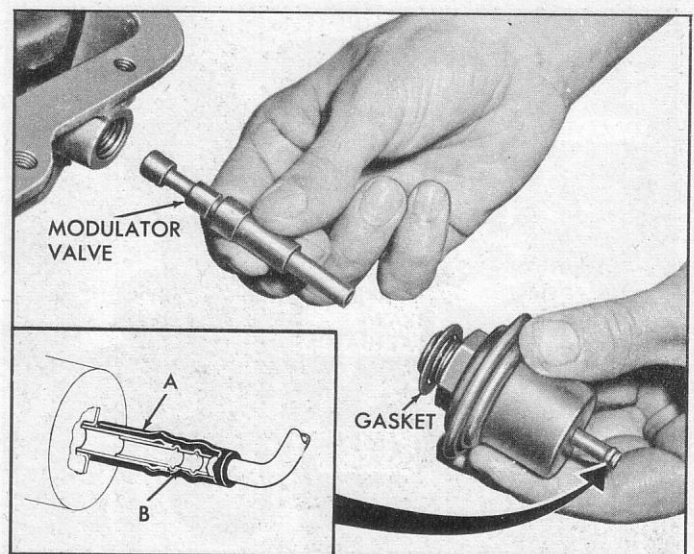

Fig. 17—Vacuum Modulated, Gasket and Valve
23. Remove the vacuum modulator and gasket, and the vacuum modulator valve (fig. 17).